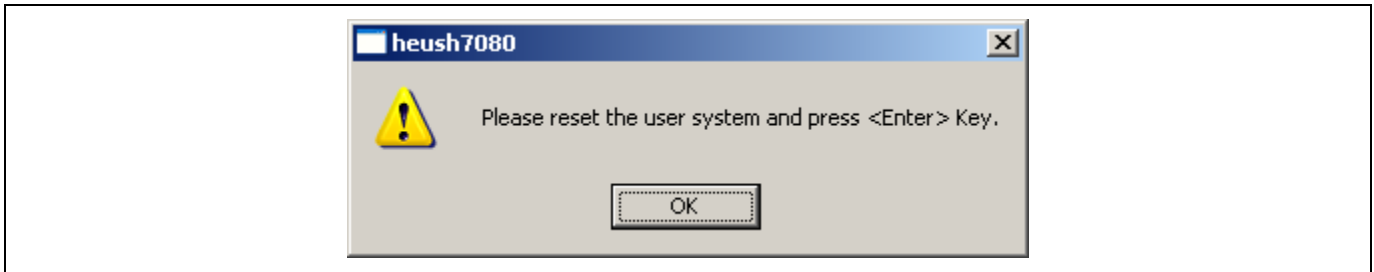

Figure 3.5 Dialog Box to request the Reset signal input
(9) Following dialog box will appear. Leave the dialog box, and turn ON the power for the CPU board. Then, press the reset button on the CPU board and click "OK" on the dialog box as shown in Figure 3.5.
Note: If the reset signal cannot be detected, the dialog box below will appear. Click "Retry", and press the reset button on the CPU board. The window as Figure 3.5 will appear, and press the reset button on the CPU board again.